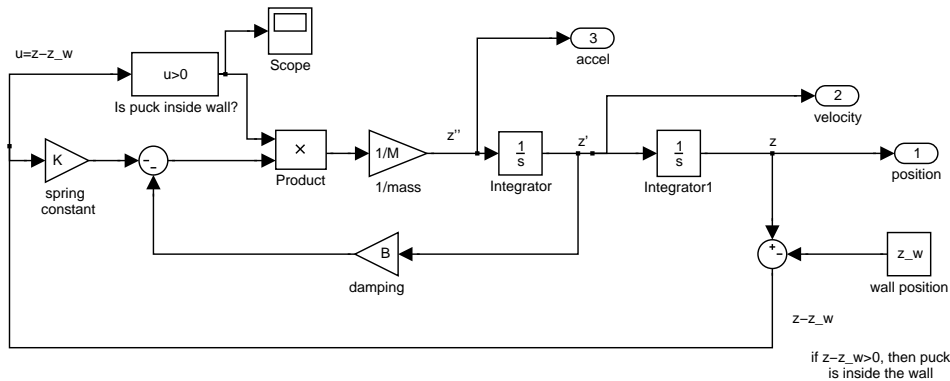
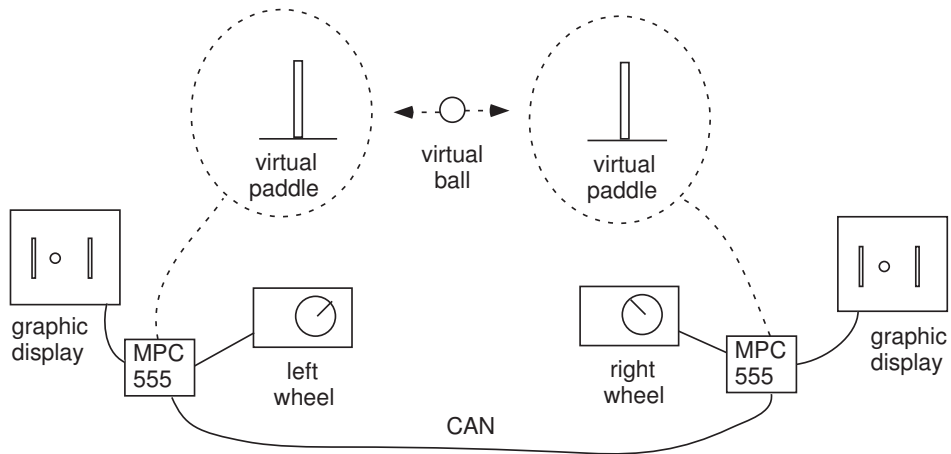
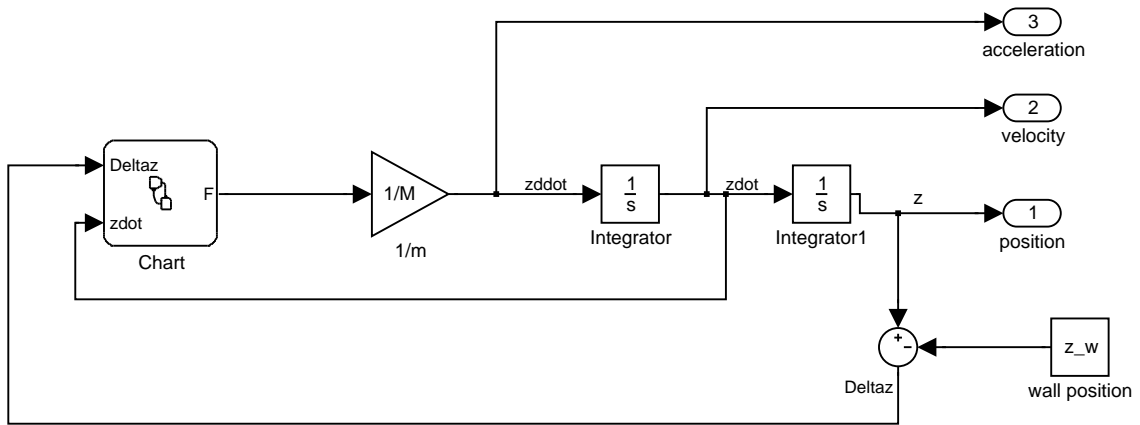
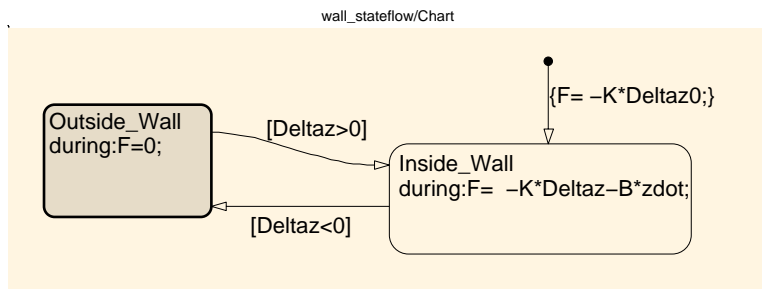

Figure 1: SIMULINK Model of Virtual Wall with Spring and Damping
Figure 2: A virtual Pong game with three discrete states
Figure 3: SIMULINK model of virtual wall with Stateflow used to model two discrete states
Figure 4: Details of Stateflow block
1. The Simulink diagram in Figure 1 is one way to model a virtual wall, where the special user code block switches the spring and damper forces on or off depending on whether the mass is in contact with (“inside”) or outside the wall.
An alternative way to simulate the virtual wall is by using Stateflow to model the fact that the puck is in either one of two discrete states: outside the wall, or inside the wall. This way of modelling the two discrete states may at first appear more complicated than the approach shown in Figure 1. Suppose, however, that the system we are trying to model and simulate has several discrete states. Then the simple trick used in Figure 1 will not work to distinguish between them. A simple example of a system with three discrete states is shown in Figure 2, which represents a one dimensional version of a Pong game. The virtual ball can be in one of three discrete states: in contact with the left paddle, in contact with the right paddle, or in contact with neither. If one were to model a two dimensional version of the Pong game, then the ball could be in one of several discrete states, depending on whether it was in contact with one of the paddles, or with the sides of the playing area, or in free flight. It is much more natural to model these situations using several discrete states.
- (a) Modify the Simulink model in Figure 1 to that shown in Figure 3, with the Stateflow diagram shown in Figure 4. (Note: it is assumed that the puck has an initial position inside the wall, so you will have to specify the initial condition of the second integrator in your Simulink model). Use the Matlab file “prob1_PS5.m” to compare the results of the two simulations. They should be very similar, but if you zoom on the plots in the fifth plot, you should see some slight differences. Why do these differences exist? Hand in a copy of the third and fifth plots obtained from the Matlab file.